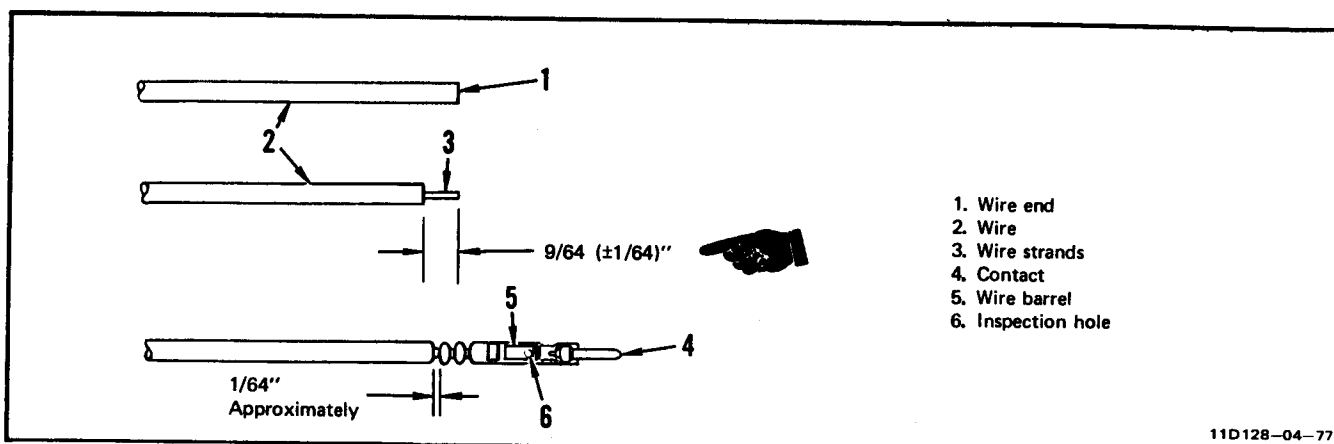

Figure 11-74. 202-26233 and 202-26236 Series Connectors - Contact Repair
**11-177. Contact Repair.** (See figure 11-74.)
a. Cut wire end (1) square and even.